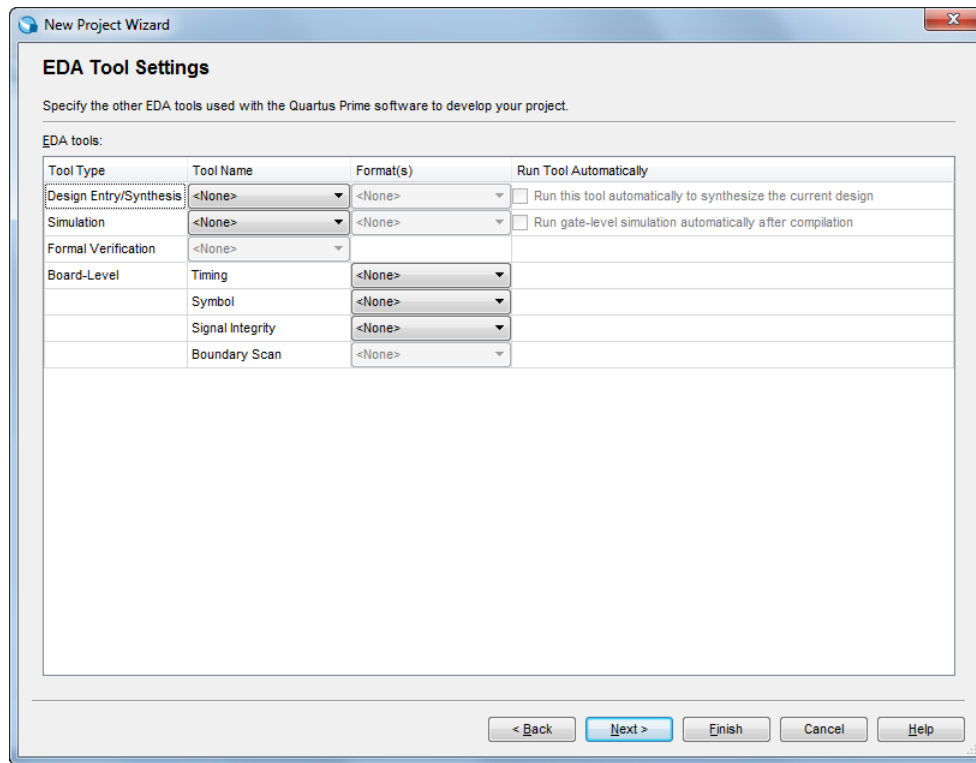

Figure 9. Other EDA tools can be specified.
- We have to specify the type of device in which the designed circuit will be implemented. Choose the Cyclone-series device family for your DE-series board. We can let Quartus Prime software select a specific device in the family, or we can choose the device explicitly. We will take the latter approach. From the list of available devices, choose the appropriate device name for your DE-series board. A list of devices names on DE-series boards can be found in Table 1. Press Next, which opens the window in Figure 9.